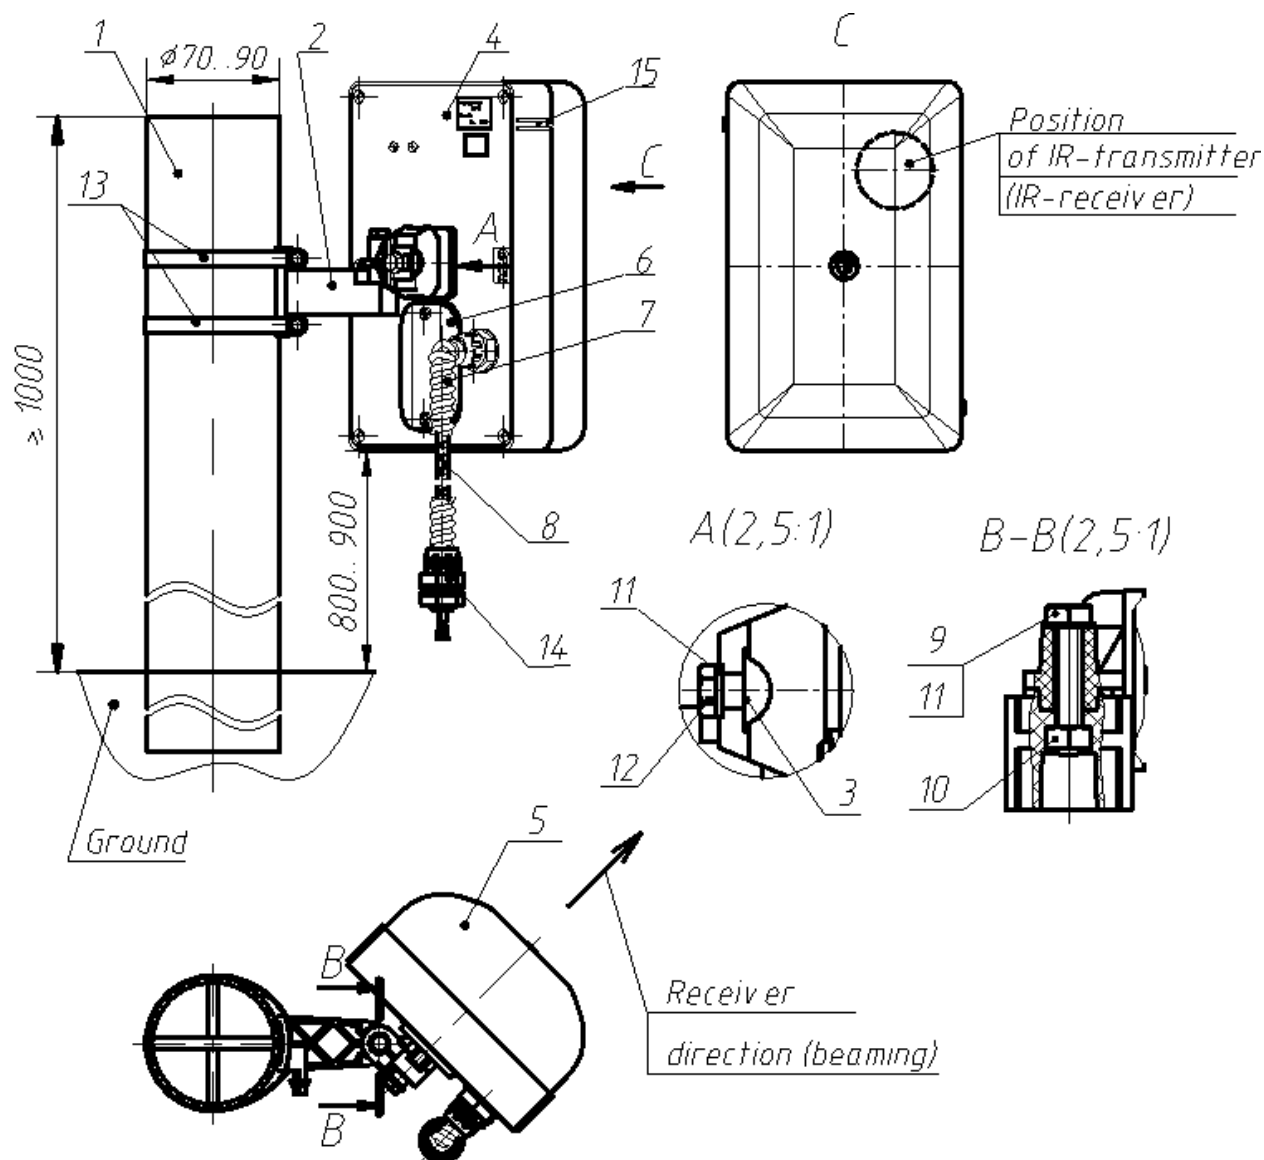
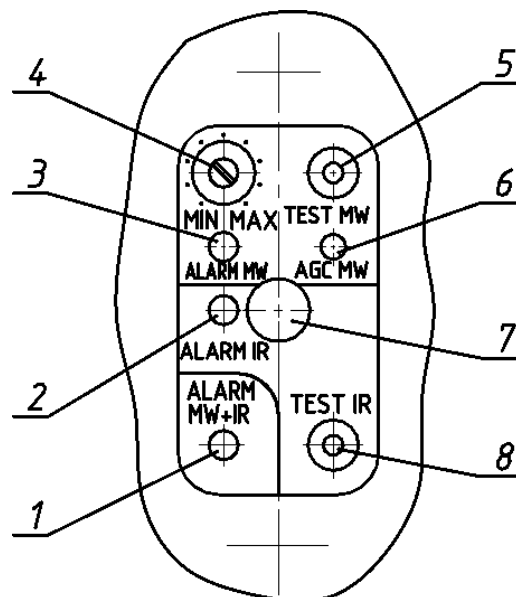

Fig. 6.1.
Fig.6.2
- 6.1.2.** Rx construction and its fastening elements to the support are shown in fig. 6.1. The bearing structure of Rx is the base 4. The infrared and radio transparent enclosure 5 is fastened to the base. In the lower part of the enclosure there are three holes preventing condensed fluid accumulation in Rx. The sight leaves 15 for easier sensor alignment are on the side faces of the base 4. It is necessary to take off the cover 6 to get the access to the adjustment and indication elements. Rx is connected to the receiving-control device with the six-wire cable 8. Rx is mounted on the support 1 with the bracket 2 and two bucles 13. It provides the rotation of the unit horizontally at an angle 360°; vertically: upwards - at an angle 45°, downwards – at an angle 15°. Arrangement and markings of components, controllers, adjustment and indication elements, located under the cover 6, are shown in fig. 6.2.
- 6.2.1.** Tx construction and its bracket are the same as the Rx construction (see fig.6.1). The difference is in the following: there are no cover 6, controllers, adjustment and indication elements; the three-wire cable is used instead of the six-wire cable 8.
- b) exclude the influence of direct sunlight or powerful infrared lighting units on Rx in the receiving direction  $\pm 2^\circ$  (see fig. 6.1).